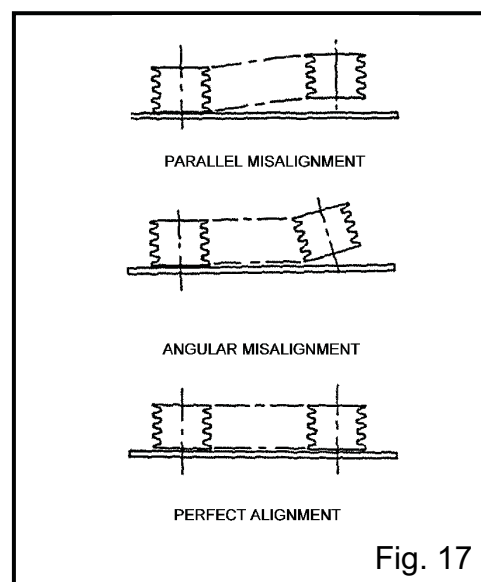

Fig. 17
**Sheave Alignment** - Alignment must be maintained for full power transmission, minimum vibration, and long drive life. A dial indicator can be used to check runout on the periphery and face of each sheave. A straight edge can be used to check parallel and angular alignment of the pump and drive sheaves, see Fig. 17.